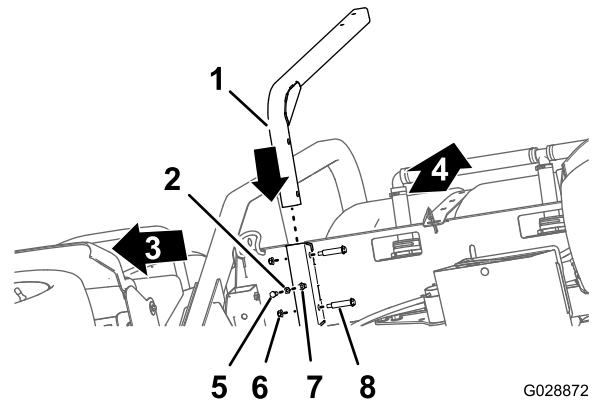

Figure 35
1. Align the support tube for the fresh water tank with the tank support channel (Figure 35).
2. Align the holes in the support tube with the holes in the channel (Figure 35).
3. Secure the tube to the channel (Figure 35) with the 2 shoulder bolts and 2 locknuts (3/8 inch).
4. Thread the jam nut (3/8 inch) into the bolt (3/8 x 1 inch); refer to Figure 35.
5. Thread the bolt and jam nut into the weld nut at the bottom of the tank support channel and tighten the bolt and jam nut (Figure 35).